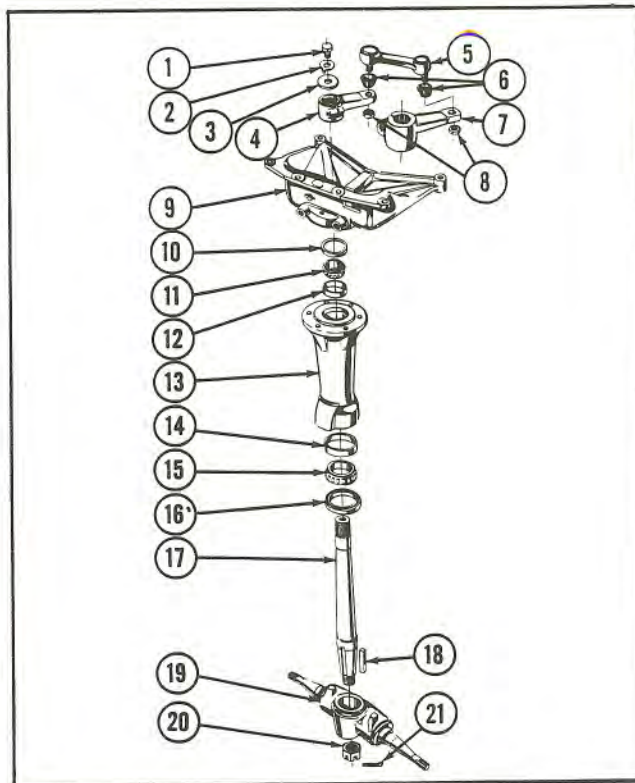

Fig. 10 - Twin Front Wheel Axle Nomenclature
2. Remove: (Refer to Fig. 10).
Remove: (Refer to Fig. 10)
- 1. Reverse the disassembly procedures and tighten cap screw No. 1, Fig. 10 until all end-play is removed from spindle, leaving a slight drag on the bearings.